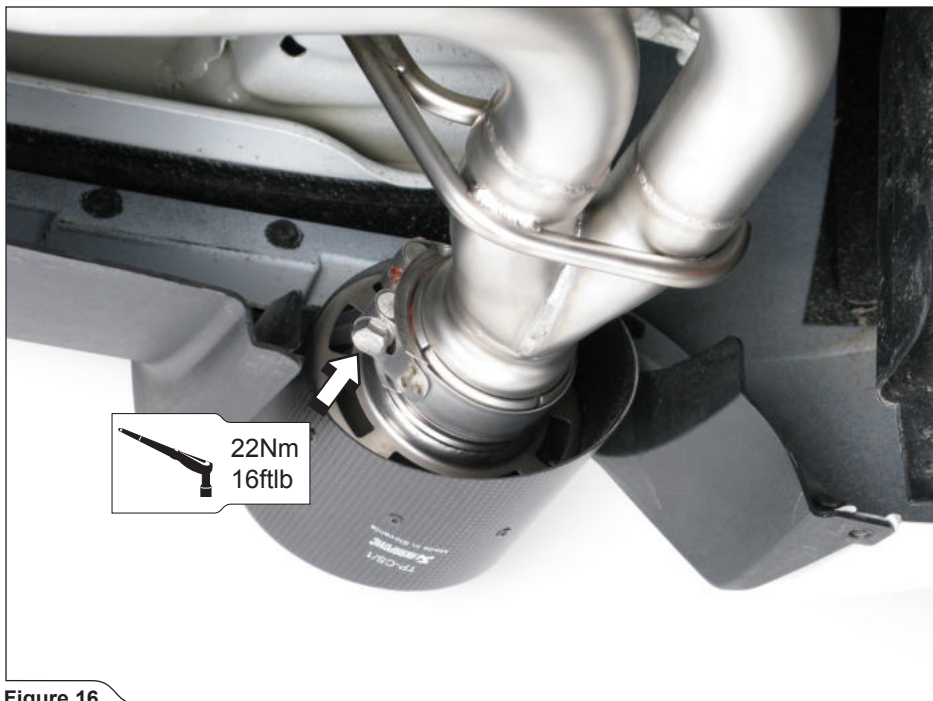

Figure 16
12. Tighten tail pipe clamps to the specified torque on both sides and assemble the rear wheels back onto the vehicle (**Figure 16**).